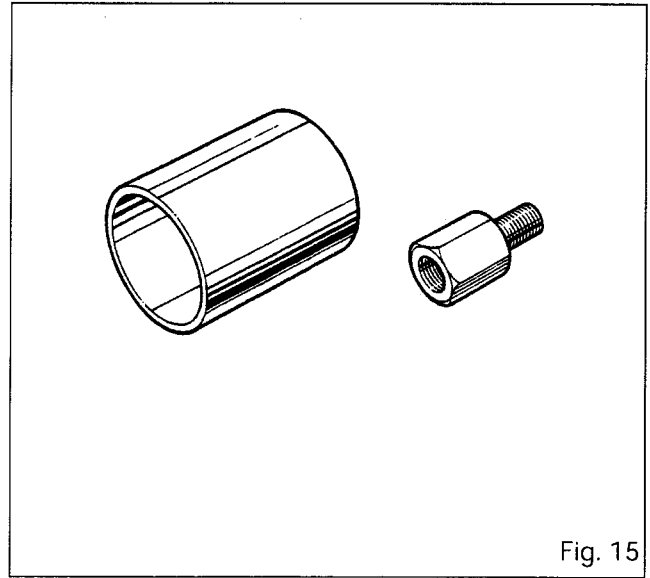

Fig. 15
**MF451B - Swivel extractor (Fig. 15)**
**MF451B/3 - End fitting for extractor M18 (Fig. 15)**